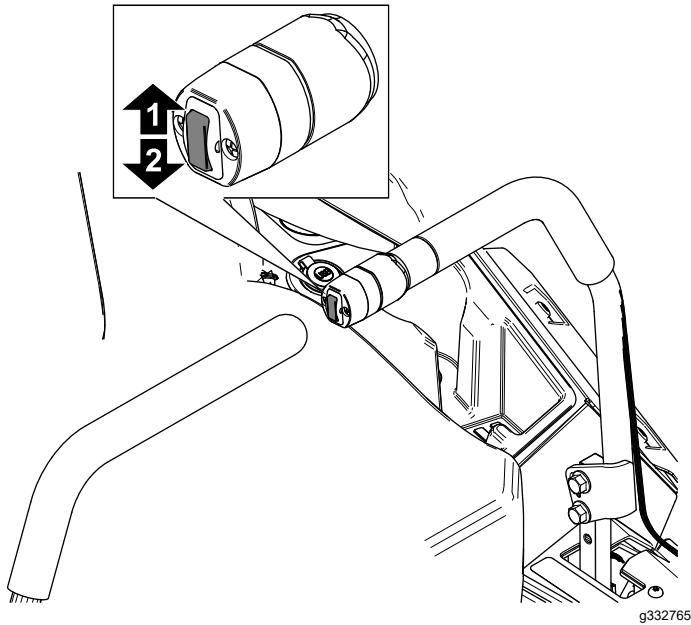

Figure 30
1. Push up on the deck-lift switch (Figure 30).
3. Push down on the deck-lift switch to set the height of cut (Figure 30).